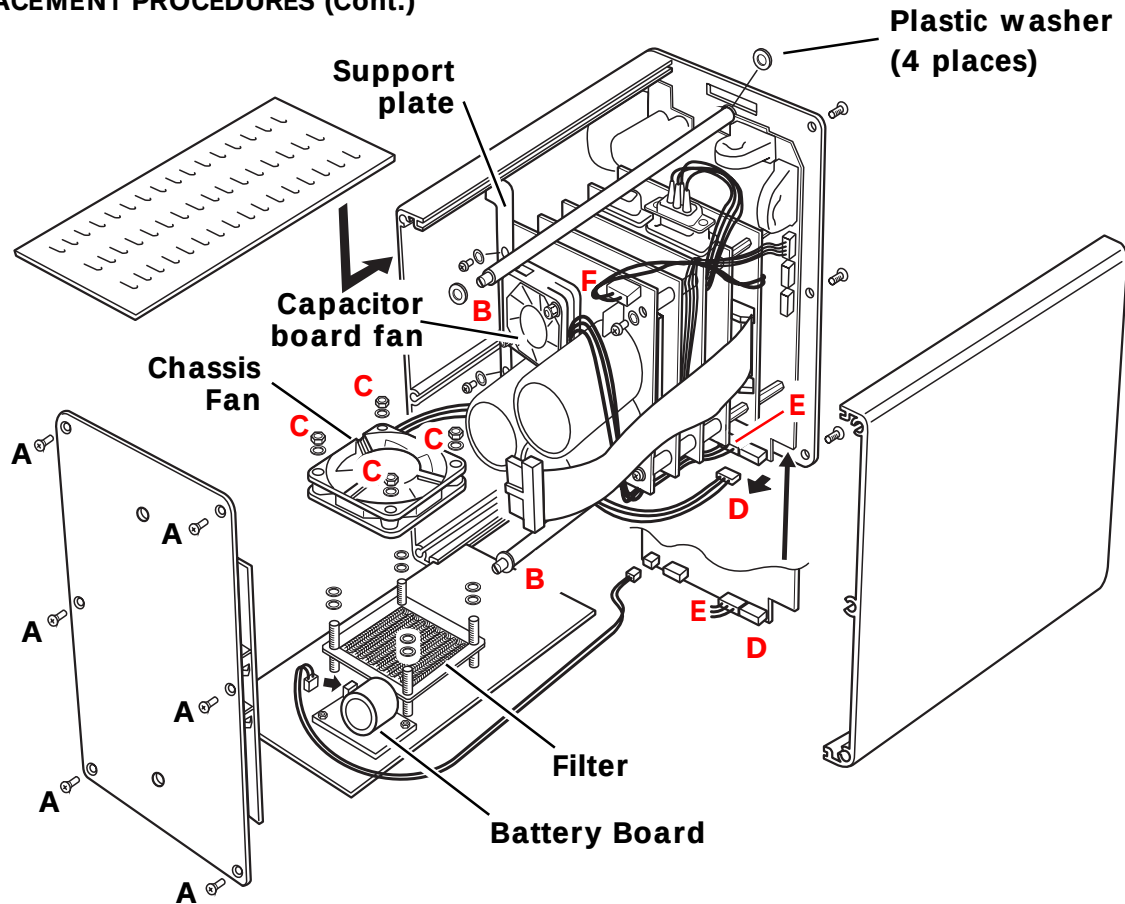

Figure 8.2 Processor module - part explosion
Figure 8.2 is a partial exploded view of the processor unit. The drawing shows one side plate removed, for clarity, but this is not always necessary for the procedures below.
2. Lay the module on one side, and slide the lower panel (containing the external fan) out, disconnecting the fan connector ('D' in figure 8.2 above) as it becomes accessible.
2. Disconnect the capacitor board connector ('F' in figure 8.2)